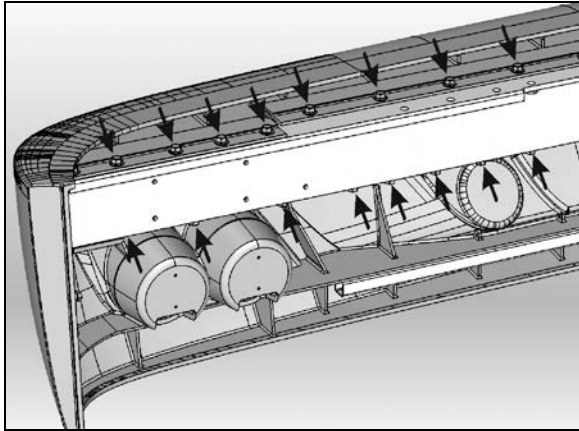

FIGURE 18: ALUMINUM EXTRUSIONS - BUMPER SKIN REMOVAL
The bumper skin is pinched to the bumper beam by the use of aluminum extrusions bolted over and under the beam. First, remove the front bumper as per "Front Bumper Removal". Let the bumper rest face down on the lifting equipment platform. Loosen the aluminum extrusion bolts as required and then detach the skin from the beam (Figure 18).
In figure 18, if there is an indentation (B) in the dust cap (C) and the cover shows two holes (A), the damper is fitted with a bump rubber (D). If so, fully extend the damper and insert a round bar or screwdriver through the holes. Push the bump rubber down and remove. Remove the split plastic collar (E) (if fitted) from the piston rod.